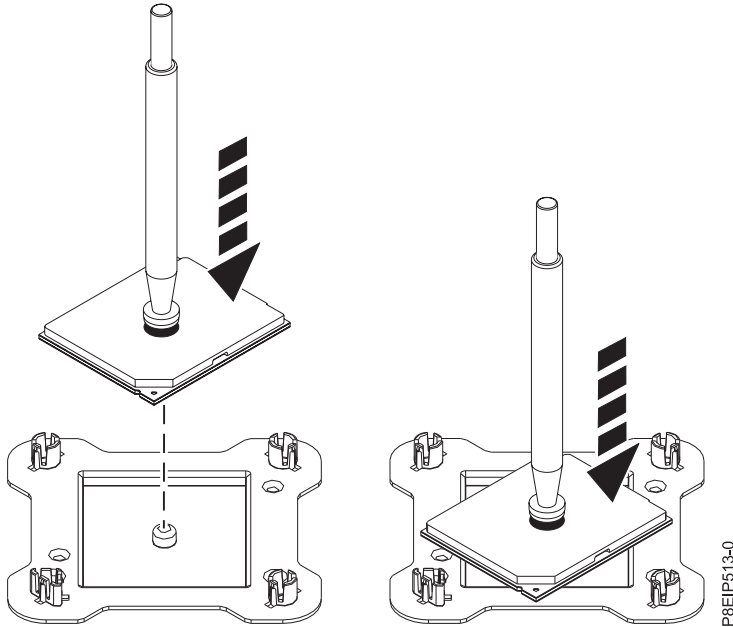

Figure 53. Placing the processor at an angle on the top cover of the packaging
9. Holding the vacuum pen, lift the pen and system processor module from the socket. Place them at an angle on the top cover of the system processor module packaging as shown in Figure 53. Setting the system processor module at an angle on the top cover of the system processor module packaging will make it easier to pick up and place in the packaging after you replace the system processor module.